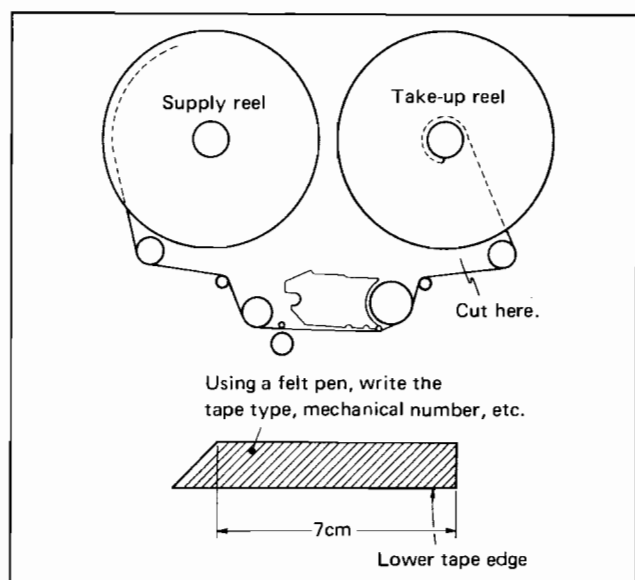

Fig. 5-28.
- Set only the switch (3) on the ENC board to ON.
- ① In the ADVACE REC mode, record onto the blank tape at all the channels for approx. 20sec.
- ② Cut off a portion of the recorded tape (as shown in Fig. 5-28) and develop it.